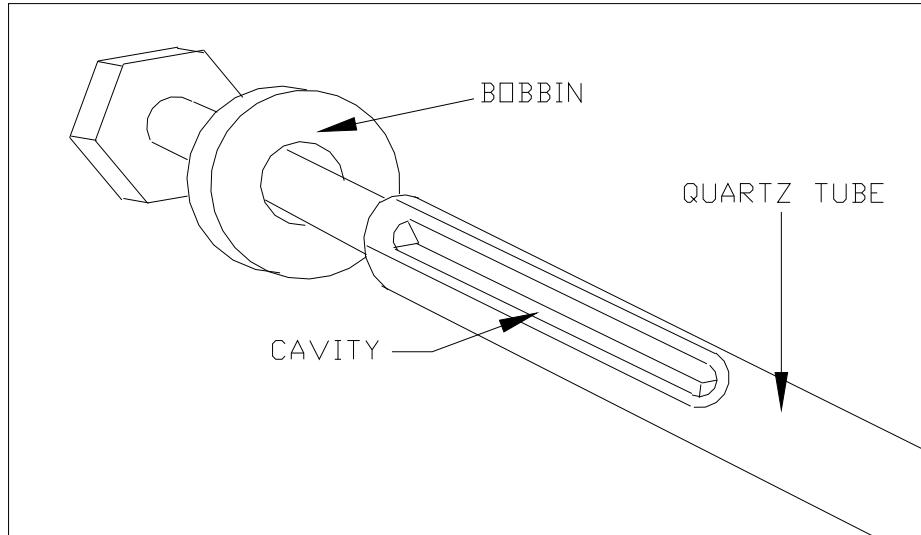

Figure 2-5. Quartz Tube Cavity for Thermocouple
10. In preparation for installing the new thermocouple, look into the end of the Heater Block. You will see that there is an indentation (cavity) in the fat part of the quartz tube. This is where the thermocouple you are installing will reside. Refer to Figure 2-5.